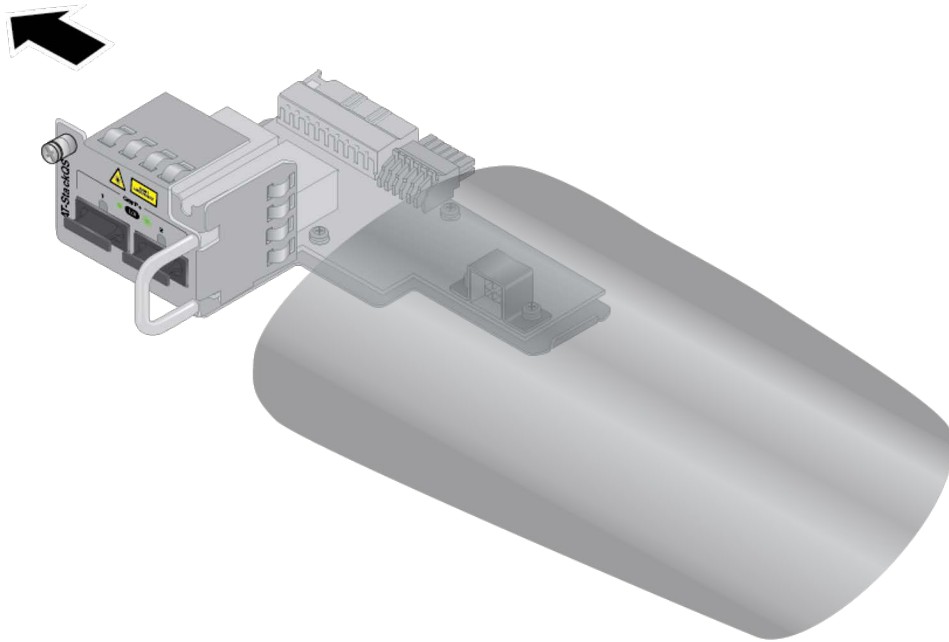

Figure 45. Removing the Card from the Anti-static Bag
7. Remove the AT-StackQS or AT-x9EM/XT4 Card from the anti-static bag. Refer to Figure 45.